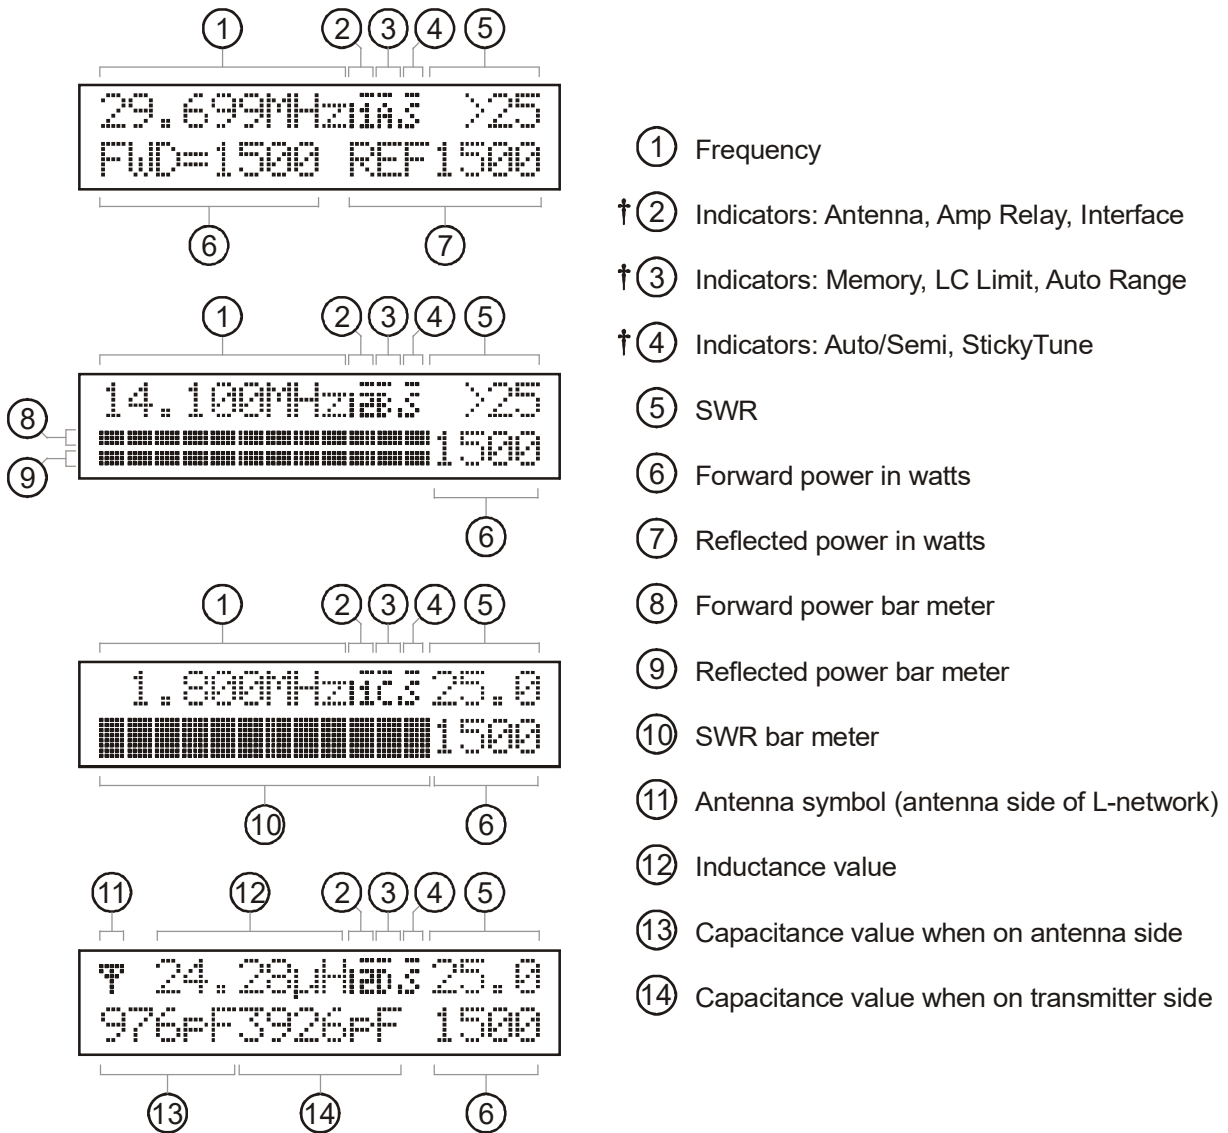
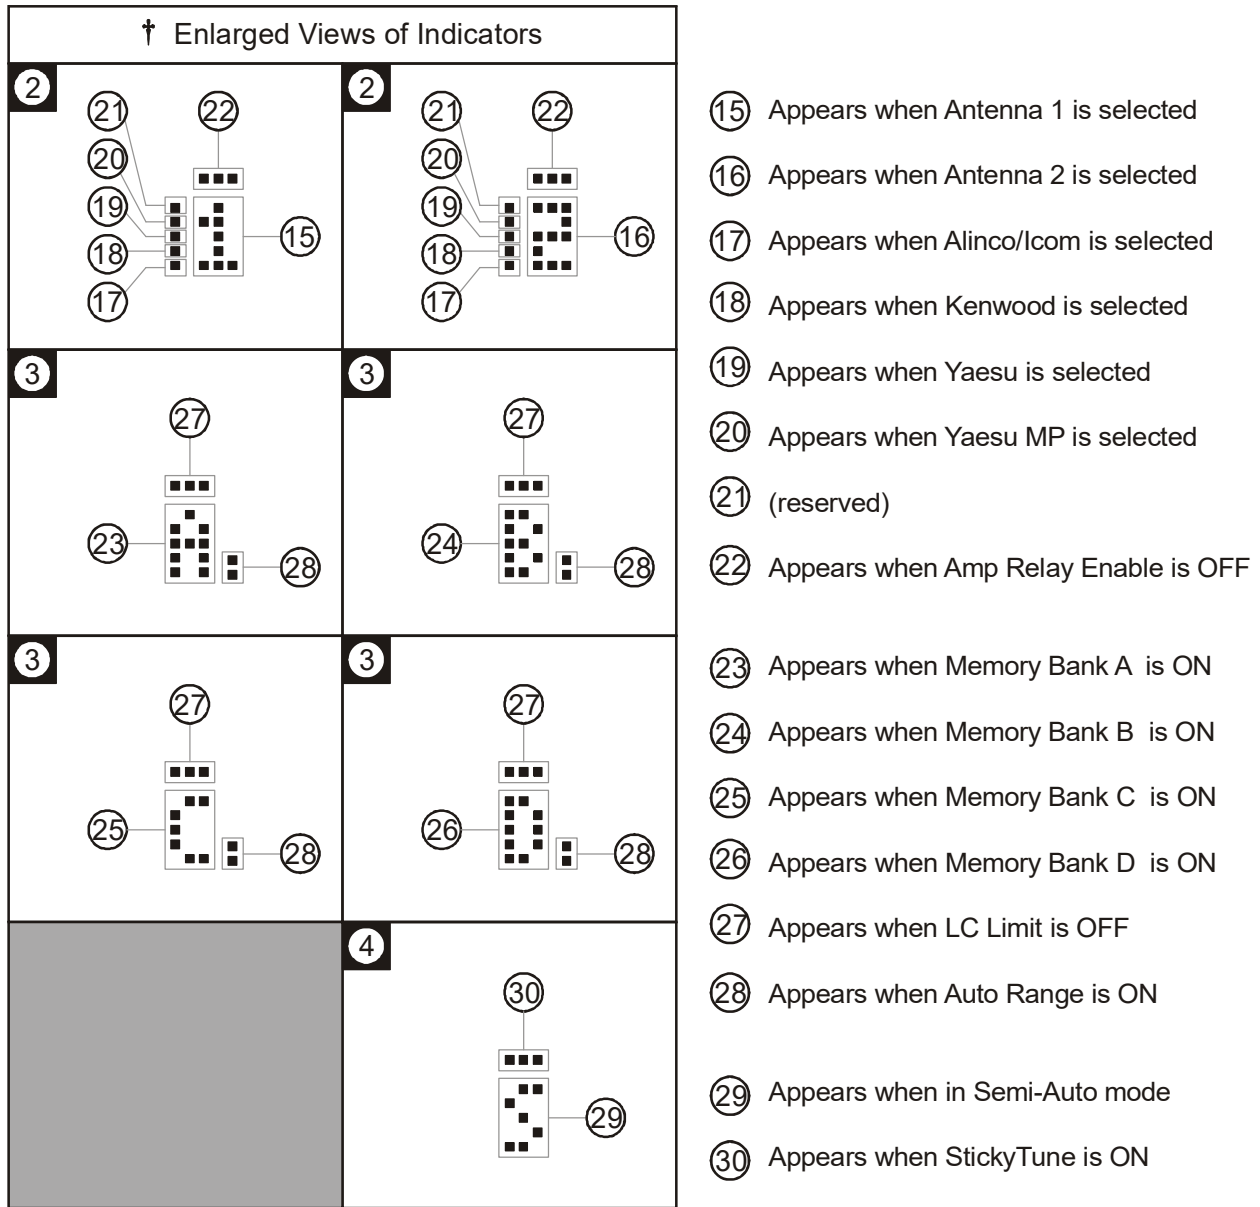

Figure 16. Main Mode Menus Display.
Figure 17. Tuner Indicators.
greater than 60 watts automatically sets the meter to the high power range. Forward power less than 250 watts and reflected power less than 40 watts automatically set the meter to the low power range. When auto range is enabled, a two-dot vertical segment appears in the lower right corner of the Auto Range indicator on the main LCD screen. Refer to Figures 16 and 17 for the on-screen Auto Range indicator.
The main mode menus show various tuner settings and status. There are four main mode menus arranged in a “wrap-around” structure. When powered on, tuner operation starts with the main menu that was last used. Within each main menu, press the [MODE] button briefly to view the next main menu. Press and hold the [MODE] button for two seconds to enter the setup mode (see below). Various tuner indicators are shown on all four main menus: Antenna 1/2, IntelliTune™, Radio Interface, Memory, LC Limit, Auto Range, Auto/Semi, and StickyTune™. Refer to Figures 16 and 17 for details on the displayed information.
The power meter default condition is auto range. Auto range automatically sets the meter scale according to the input RF power to the tuner. Forward power greater than 300 watts or reflected power greater than 60 watts automatically sets the meter to the high power range. Forward power less than 250 watts and reflected power less than 40 watts automatically set the meter to the low power range. When auto range is on, a two-dot vertical segment appears on the on-screen tuner indicator. Refer to Figures 16 and 17 for the on-screen Auto Range indicator.
Various tuner indicators are shown on the main menus to indicate tuner status. Refer to Figures 16 and 17 for locations of these indicators. The number enclosed within () is the item number of Figure 17.
Note: Pressing [MODE], [L-UP] and [L-DN] simultaneously toggles the Amplifier Bypass Control™ feature ON and OFF; and disables the StickyTune™ mode, if enabled. Refer to Figures 16 and 17 for the on-screen Amp Relay Enable indicator. If this feature is turned OFF (not recommended), it will be re-set to ON whenever power is cycled.
Allows you to select the meter scale range. In the 300 watts (low) range, the forward full scale is 300 watts and the reflected full scale is 60 watts. In the 3000 watts (high) range, the forward full scale is 3000 watts and the reflected full scale is 600 watts (multiple the meter reading by 10). Auto range automatically sets the meter scales according to the input RF power to the tuner. Forward power greater than 300 watts or reflected power greater than 60 watts automatically sets the meter to the high power range. Forward power less than 250 watts and reflected power less than 40 watts automatically set the meter to the low power range. Refer to Figures 16 and 17 for the on-screen Meter Range indicators. Default is AUTO Range.
The memory resolution for non-amateur frequency bands between 160 and 10 meters is approximately 0.2 percent of the lower frequency of each band. There are over 2500 memory locations for each memory bank, and each antenna has four memory banks (A-D). Tuner settings are stored in memory separately for Antenna 1 and Antenna 2 (settings for single-wire antenna are stored as Antenna 1). This provides memory for up to eight different antennas. Refer to Figures 16 and 17 for the on-screen Memory indicator. Defaults are memory banks 1A and 2A ON.
The upper limits of inductance (L) and capacitance (C) are factory-limited according to frequency and maximum power rating; i.e., higher frequencies need less inductance and less capacitance when the L-network is properly tuned. Pressing [C-UP] and/or [L-UP] allows capacitance and inductance to be increased only to these limits. When a selected capacitance or inductance is higher than its allowed limit, and the frequency is changed, that selection is automatically reduced to the value of its limit. These limits are used to prevent matching of extreme load impedance outside the tuner's specification, which may result in excess voltage and/or current across the tuner's components. This setting is not stored in non-volatile memory and reverts back to the default when the tuner power is cycled. Refer to Figures 16 and 17 for the on-screen LC Limit indicator. Default is ON.